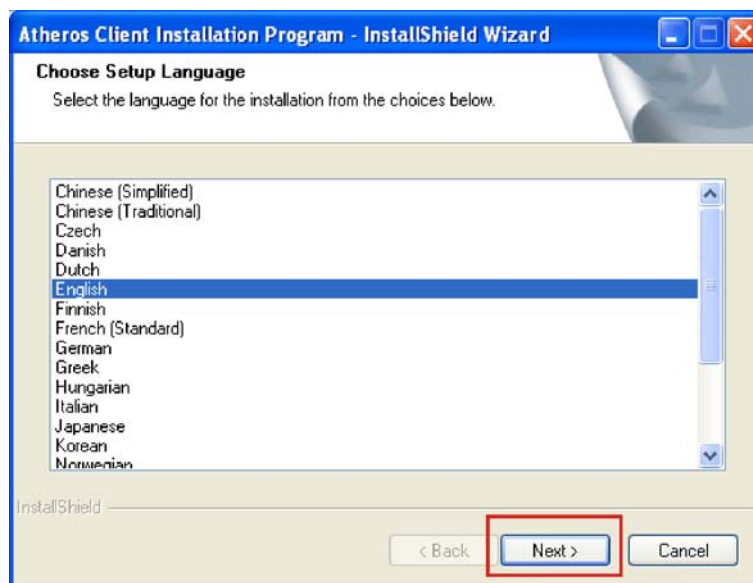

Figure 6-28: Wireless LAN Setup Language
Step 4: Choose the language from the **Choose Setup Language** window (Figure 6-28).